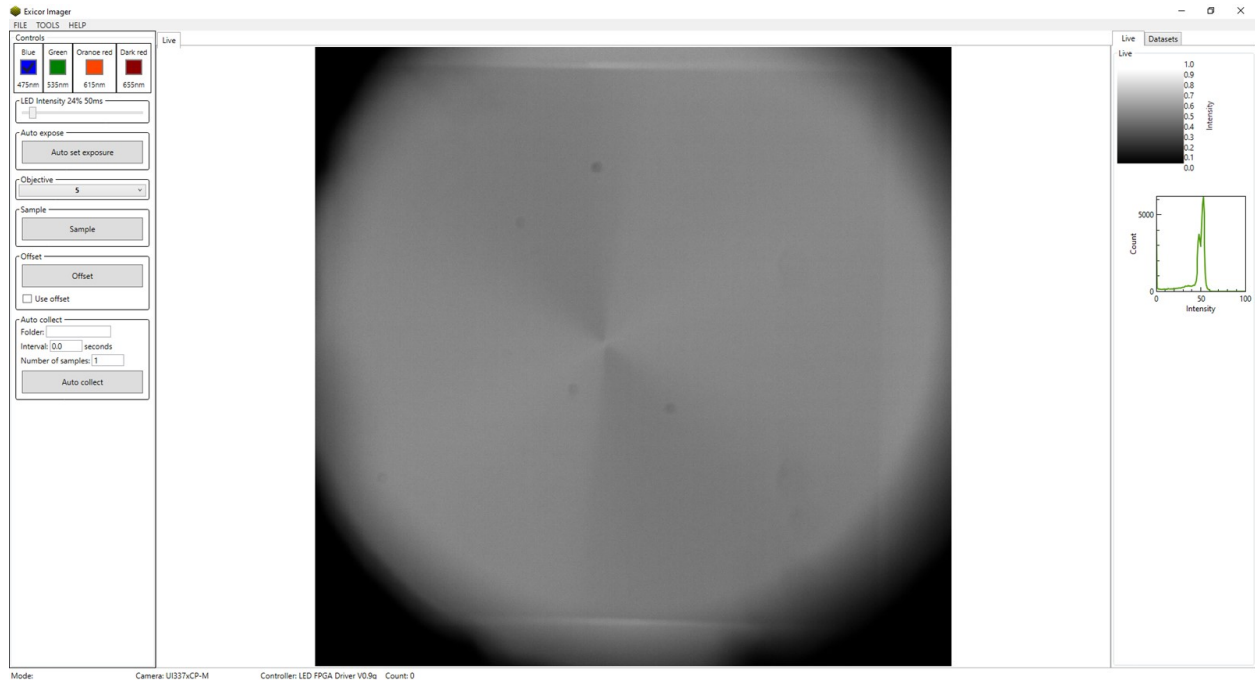

Fig. 3. Focused sample with +1 radial defect (CCN-47, 2.4 μm , 45 $^{\circ}\text{C}$) using 5X objective
3. Place the sample on the **Sample Stage** → focus on the sample as shown in Fig. 3 → click the **Auto Set Exposure** button again.